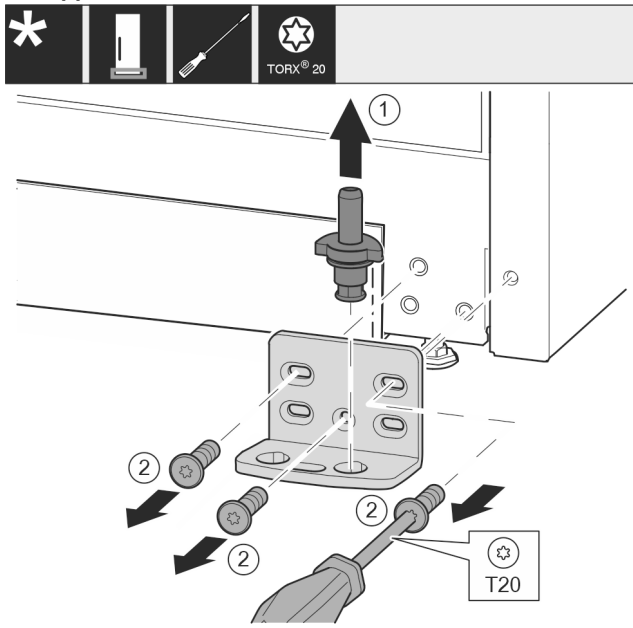

Fig. 12
- ▶ Lift the bearing pin completely upward and remove it. Fig. 12 (1)
- ▶ Remove the screws with the T20 screwdriver and take off the bearing bracket. Fig. 12 (2)